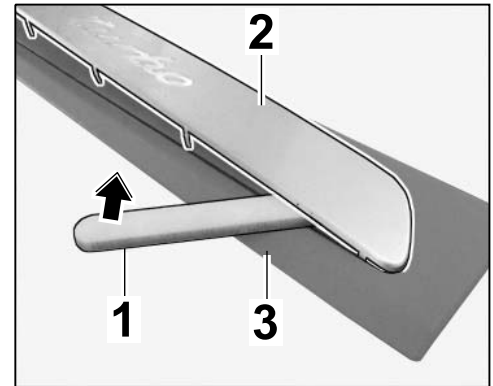

Figure 20
3.1.2 Carefully lever off the standard door entry guard from the (inner) door sill trim using a POM (plastic) wedge (\Rightarrow Figure 20).